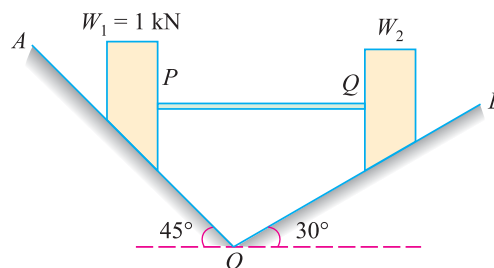

Fig. 8.20.
**Example 8.13.** Two loads,  $W_1$  (equal to 1 kN) and  $W_2$  resting on two inclined rough planes  $OA$  and  $OB$  are connected by a horizontal link  $PQ$  as shown in Fig. 8.20.